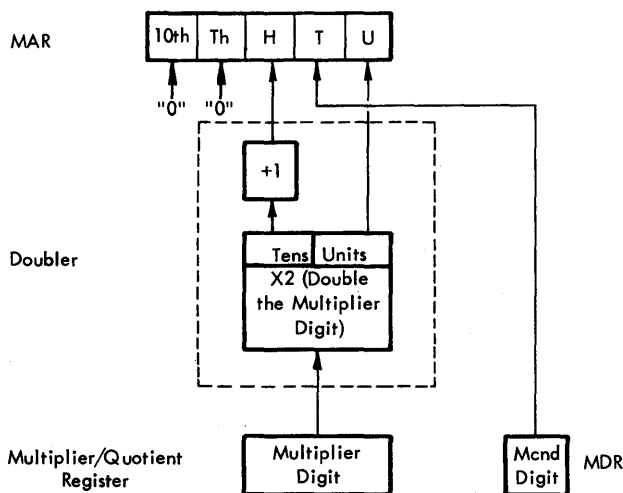

Figure 13-18. Data Flow - Multiply Table Address
3. The multiplicand digit is transferred from MDR to the tens position of MAR and the multiplier digit is passed through a doubler circuit to form two digits which are entered into the hundreds and units positions of MAR. (The digit entering the hundreds position is increased by one before being placed in MAR.) See Figure 13-18. This manufactured address is used to read the 2-digit product (whose digits are in reverse order) from the multiply table stored in memory in locations 00100 through 00299, (Figure 13-2). The 2-digit product is stored (with digits in the correct order) in the D/B register.